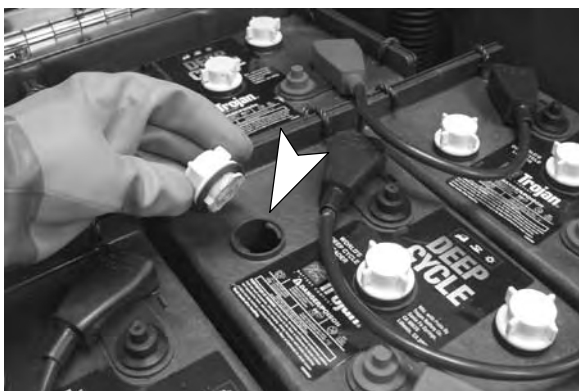

FIG. 22
2. Before charging the batteries, check the electrolyte level in each battery cell (Figure 22).